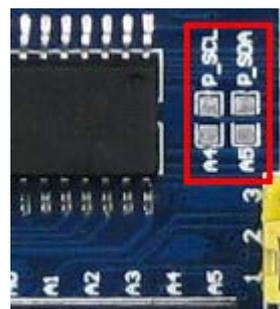

Figure 22: Setting the pins A4 and A5 as I2C control pins
- 4) You can also connect the pin A4 to P_SCL, and the pin A5 to P_SDA (as Figure 22 shows), to making them sever as I2C control pins of Raspberry Pi board. However, in default settings, the pins A4 and P_SCL are disconnected, and so do the pins A5 and P_SDA.